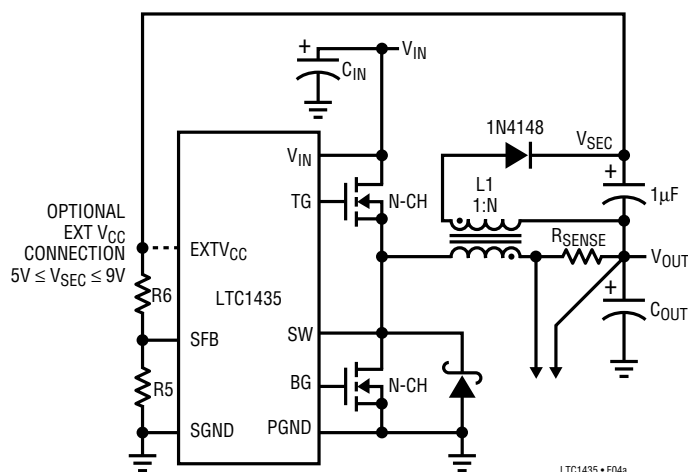
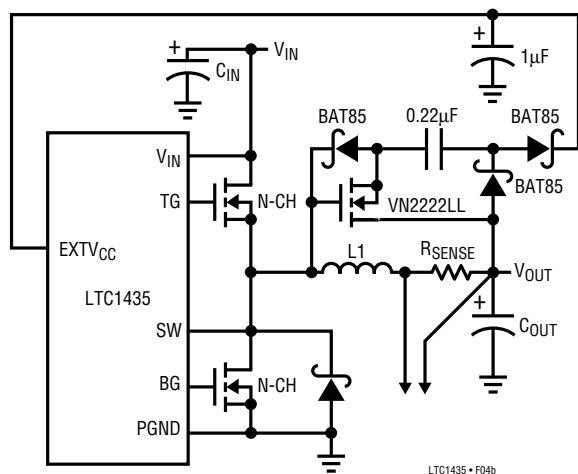

Figure 4a. Secondary Output Loop and EXTV_{CC} Connection
Figure 4b. Capacitive Charge Pump for EXTVCC
3. EXTV_{CC} connected to an output-derived boost network. For 3.3V and other low voltage regulators, efficiency gains can still be realized by connecting EXTV_{CC} to an output-derived voltage which has been boosted to greater than 4.8V. This can be done with either the inductive boost winding as shown in Figure 4a or the capacitive charge pump shown in Figure 4b. The charge pump has the advantage of simple magnetics.
The secondary output voltage is set by the turns ratio of the transformer in conjunction with a pair of external resistors returned to the SFB pin as shown in Figure 4a. The secondary regulated voltage, V_{SEC} , in Figure 4a is given by: